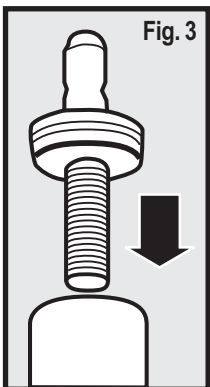

Fig. 3
3. Turn round nut to top of threads on adjustment screw. Place adjustment screw on top of small diameter post. Tapered side of nut will fit into small diameter post with the shoulder resting on top of post. (Fig. 3)